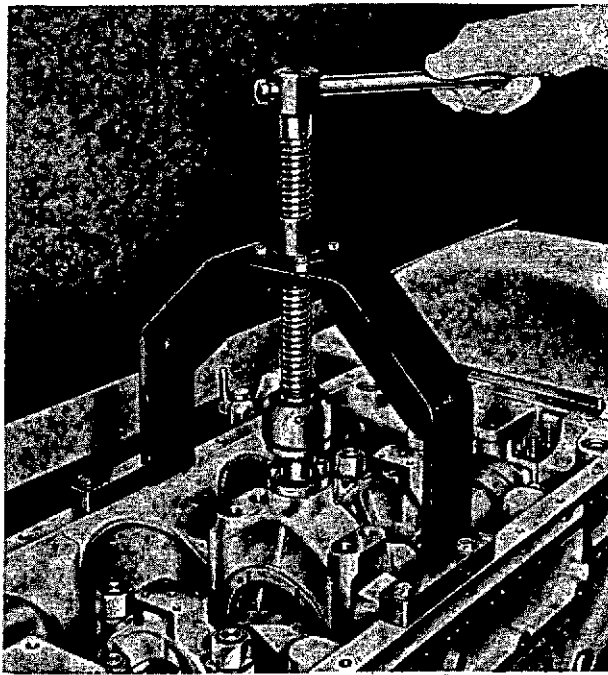

Fig. 7 Extracting main bearing cap
28. Extract main bearing caps, using tool GA.2/M1 (fig. 7) where necessary.